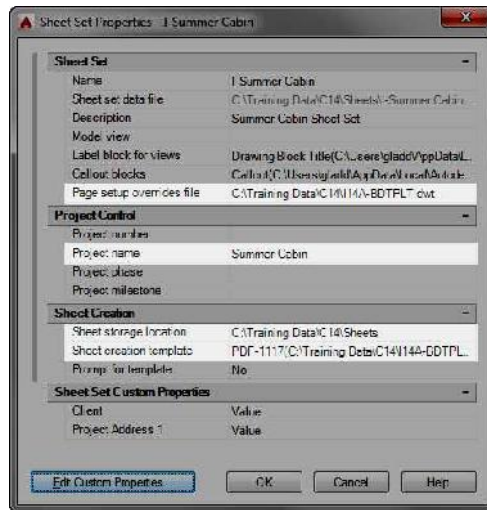

FIGURE 14.34: The Sheet Set Properties dialog box configured for the Summer Cabin project
14. Click the Project Name property to make it active, and enter Summer Cabin as the project name, as shown in Figure 14.34.
15. Verify that the Sheet Set Properties - Summer Cabin dialog box looks like Figure 14.34, and then click OK to save the settings and exit the dialog box.